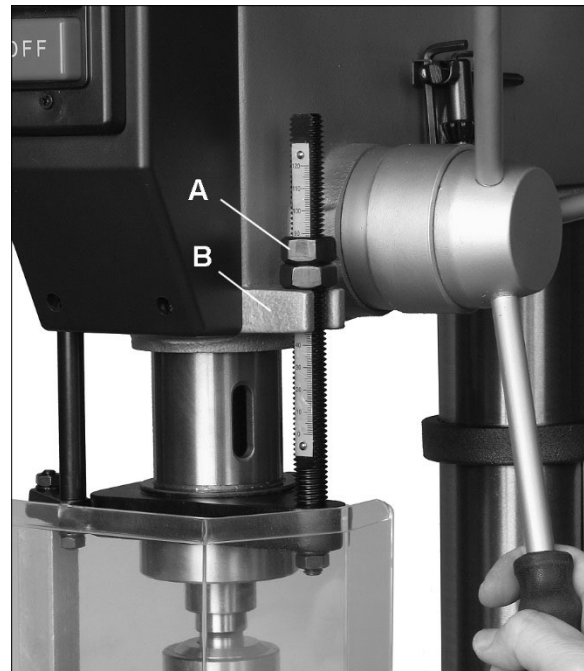

Figure 8-1: depth stop adjustment
3. With your other hand, advance lock nuts (A, Figure 8-1) on the depth stop rod until they are snug to the seat (B).